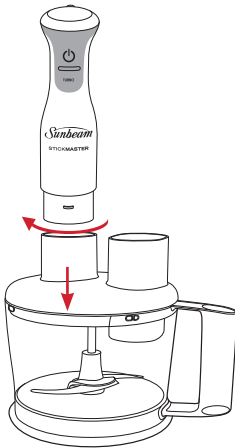

Figure 3
5. Insert the motor housing into the processing bowl lid and twist the wand in a clockwise position until you hear a click. See Figure 3.